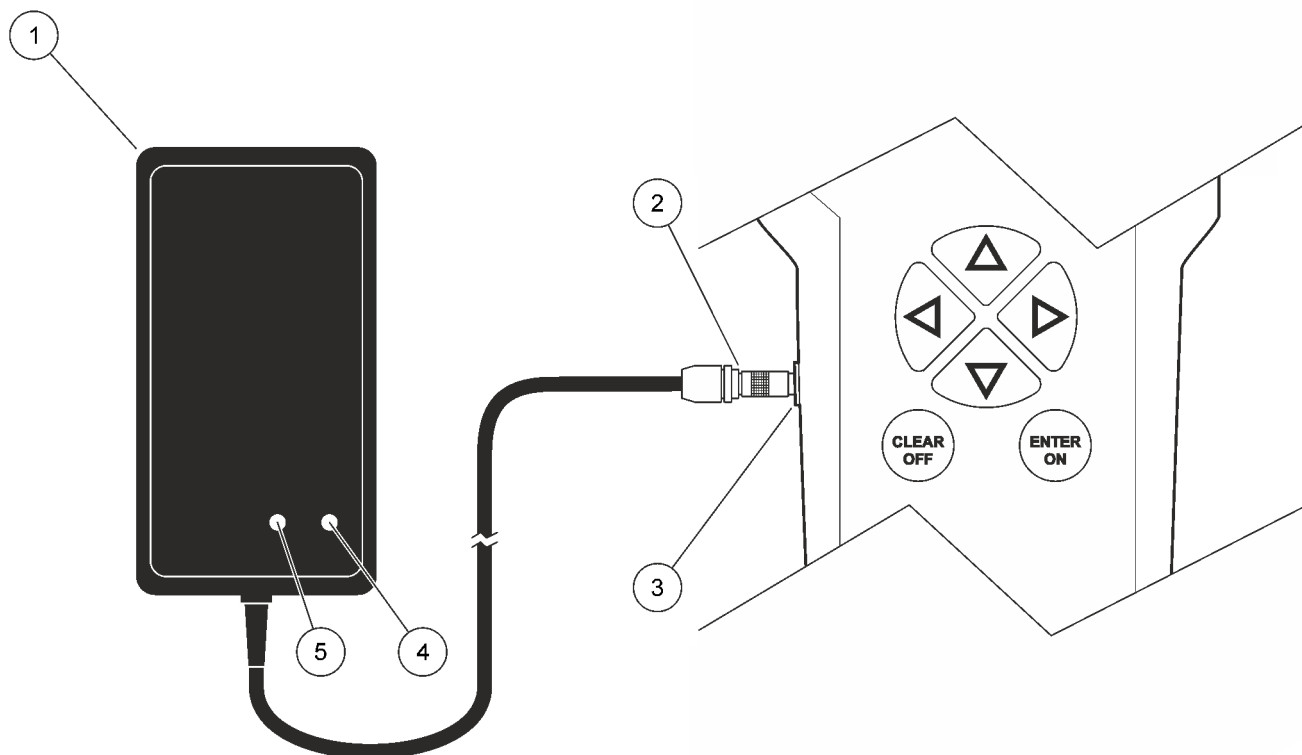

Figure 4 Charging the rechargeable batteries
2. Insert the charging plug (item 2, Figure 4) into the charging socket (item 3, Figure 4) of the instrument.
1. Connect the charger to the power supply source and then connect to the instrument (Figure 4). The rechargeable batteries are charged.